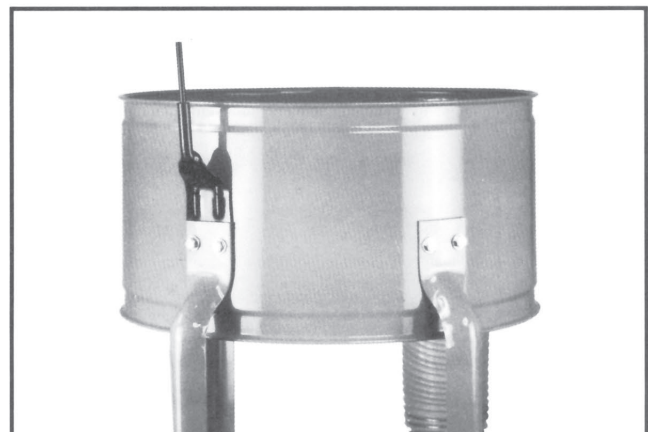

Fig. 6
5. Install housing (A, Fig. 5) to three support brackets using six hex cap bolts (M8x16), twelve flat washers (5/16"), and six hex nuts (M8). Be sure hose opening faces fan housing. Before attaching third support bracket (B, Fig. 5), place hanger bracket between the support bracket and the housing, as pictured in Fig. 6. Tighten all bracket nuts and bolts at this time.